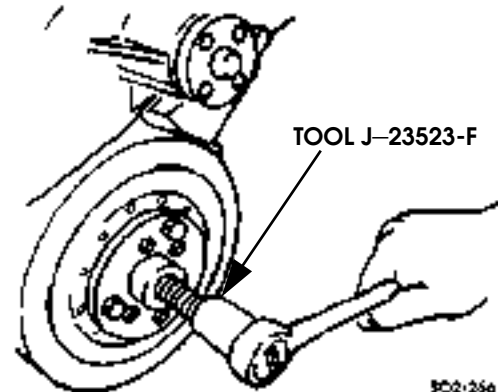

Figure 2-18: Torsional Damper Removal
3. Remove torsional damper with tool J-23523-F (Figure 2-18).
14. Remove torsional damper with tool J-23523-F (Figure 2-18).